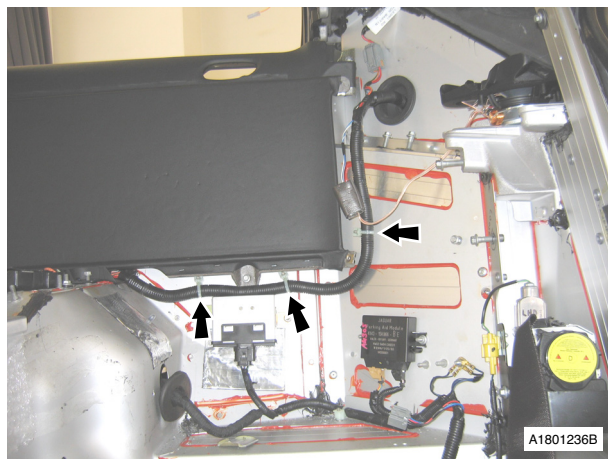

Fig. 20
55. Remove LH harness clips (x3) (see Fig. 20).